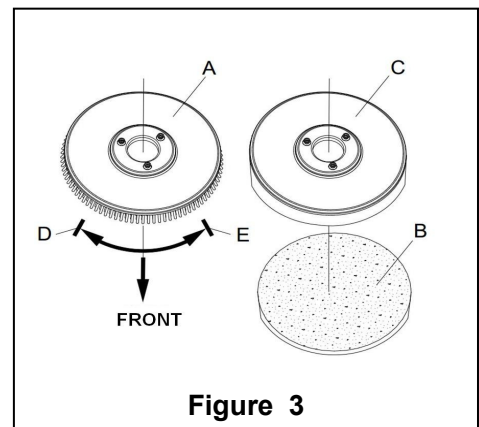

Figure 3
According to the type of floor to be cleaned, the machine may be installed with brush (Figure3, A), or a pad-holder (Figure 3, B and C).
1. (Only applicable to **AS430C** and **AS510C**): make sure the power cable (9) disconnecting the power supply and the power switch (38) is at the disconnecting (O) condition.
2. Press down the handlebar (2) to lift the tank body (26).
3. Put the brush (A) or the pad-holder (B – C) under the case.
4. Use the handlebar (2) to lower the tank body (26) to come into contact with the brush or pad-holder.
5. To install the brush/pad-holder automatically, turn the power switch (38) to the "I" position and press down the safety switch (1). Gently push the machine forward so as to allow the belt wheel at the bottom of the tank body to align with the brush or pad-holder which can then be installed. Then release the safety switch. If necessary, repeat this procedure until the brush/pad-holder is installed.
6. If Step 5 above proves to be difficult, use the manual method by following the arrow head (D) to install the brush/pad-holder (as shown in **Figure 3**).
7. To automatically unload the brush/pad-holder, turn the power switch (38) to the "O" position. Use the hand to hold the handlebar, and press the machine downwards until the guide wheel touches the floor and the brush/pad-holder hangs in the air. Turn the power switch (38) to the "I" position, and press down the safety switch to let the brush or pad-holder turn until the brush/pad-holder drops to the floor.
8. If Step No. 7 above proves to be difficult, use the manual method by turning the brush/pad-holder in the direction opposite to the normal turning direction, and it can be taken off. (as shown in **Figure 3**)